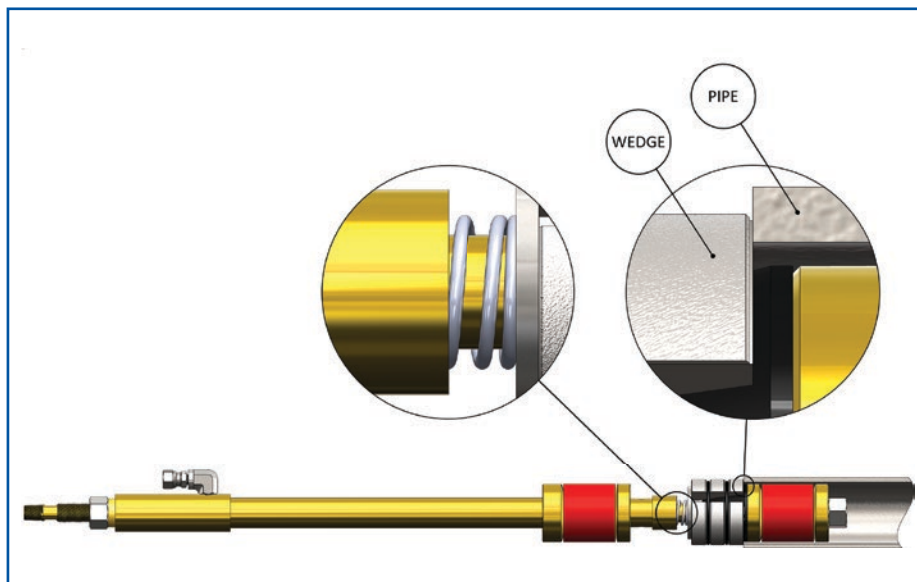

Figure 3: Immediate Gripping Upon Insertion
- Expand the *Wedge Grippers* (11) to the end of the *Wedge Cone* (12) by advancing the *Compression Hex Nut* (21) (see Figure 3). At this point, the *Wedge Grippers* (11) expanded outside diameter will be larger than the ID of the pipe.
- Slowly push the plug into the pipe, the *Compression Spring* (16) shown in **Figure 3** will compress into the *Spring Cup* (9) and allow the *Wedge Grippers* (11) to retract forward, decreasing its expanded outside diameter until they match the ID of the pipe.
- Once the *Wedge Grippers* (11) contact the ID of the pipe, they will automatically grip; removal of the plug at this point is not possible. See **Section 8** for plug removal if necessary.
- Insert plug to the desired depth. The *Sealing Compression Ring* (6) must be inserted flush with the pipe, or fitting face at a minimum.